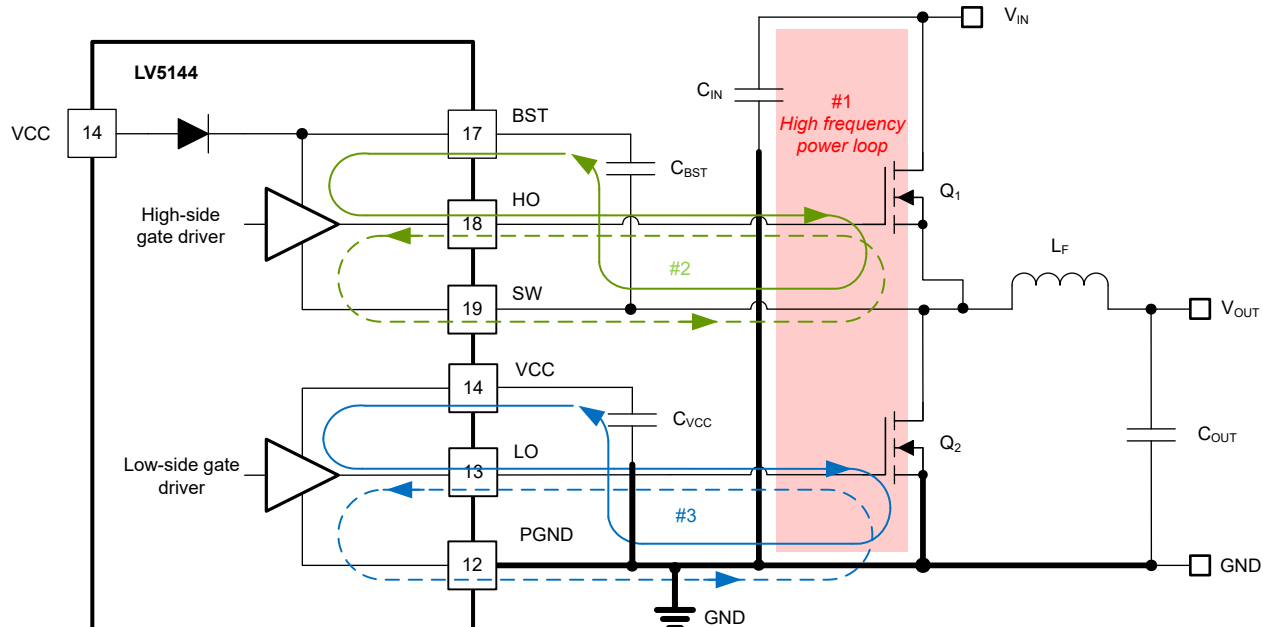

图 9-33. DC/DC Regulator Ground System With Power Stage and Gate Drive Circuit Switching Loops
Proper PCB design and layout is important in a high-current, fast-switching circuits (with high current and voltage slew rates) to assure appropriate device operation and design robustness. As expected, certain issues must be considered before designing a PCB layout using the LV5144. The high-frequency power loop of the buck converter power stage is denoted by #1 in the shaded area of Figure 9-33. The topological architecture of a buck converter means that particularly high di/dt current flows in the components of loop 1, and it becomes mandatory to reduce the parasitic inductance of this loop by minimizing its effective loop area. Also important is the gate drive loops of the low-side and high-side MOSFETs, denoted by 2 and 3, respectively, in Figure 9-33.
- Loop #1: The most important loop to minimize the area of is the path from the input capacitor or capacitors through the high- and low-side MOSFETs, and back to the capacitor or capacitors through the ground connection. Connect the input capacitor or capacitors negative terminal close to the source of the low-side MOSFET (at ground). Similarly, connect the input capacitor or capacitors positive terminal close to the drain of the high-side MOSFET (at VIN). Refer to loop #1 of 图 9-33.
5. The SW pin connects to the switch node of the power conversion stage and acts as the return path for the high-side gate driver. The parasitic inductance inherent to loop #1 in 图 9-33 and the output capacitance (C_{OSS}) of both power MOSFETs form a resonant circuit that induces high frequency (> 100 MHz) ringing on the SW node. The voltage peak of this ringing, if not controlled, can be significantly higher than the input voltage. Ensure that the peak ringing amplitude does not exceed the absolute maximum rating limit for the SW pin. In many cases, a series resistor and capacitor snubber network connected from the SW node to GND damps the ringing and decreases the peak amplitude. Provide provisions for snubber network components in the PCB layout. If testing reveals that the ringing amplitude at the SW pin is excessive, then include snubber components as needed.
- Loop 2: high-side MOSFET, Q_1 . During the high-side MOSFET turnon, high current flows from the bootstrap (boot) capacitor through the gate driver and high-side MOSFET, and back to the negative terminal of the boot capacitor through the SW connection. Conversely, to turn off the high-side MOSFET, high current flows from the gate of the high-side MOSFET through the gate driver and SW, and back to the source of the high-side MOSFET through the SW trace. Refer to loop #2 of 图 9-33.
- Loop 3: low-side MOSFET, Q_2 . During the low-side MOSFET turn-on, high current flows from the VCC decoupling capacitor through the gate driver and low-side MOSFET, and back to the negative terminal of the capacitor through ground. Conversely, to turn off the low-side MOSFET, high current flows from the gate of the low-side MOSFET through the gate driver and GND, and back to the source of the low-side MOSFET through ground. Refer to loop #3 of 图 9-33.